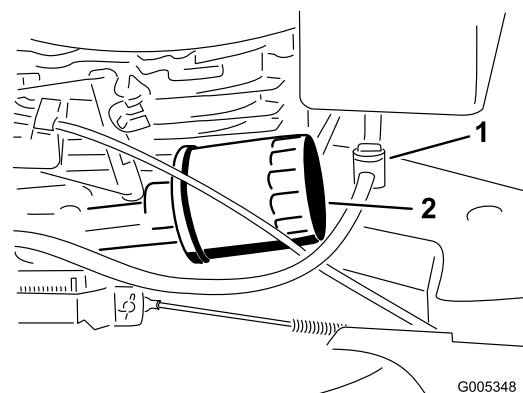

Figure 27
5. Place a rag under the oil filter to catch any oil that may leak out as you remove the filter (Figure 27).
3. Close the fuel valve (Figure 27).